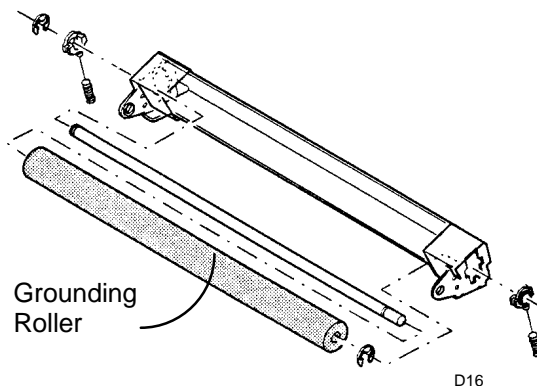

Figure 3. Removing the Grounding Roller
5. (Figure 3): Remove E-Rings and springs and remove the Grounding Roller.